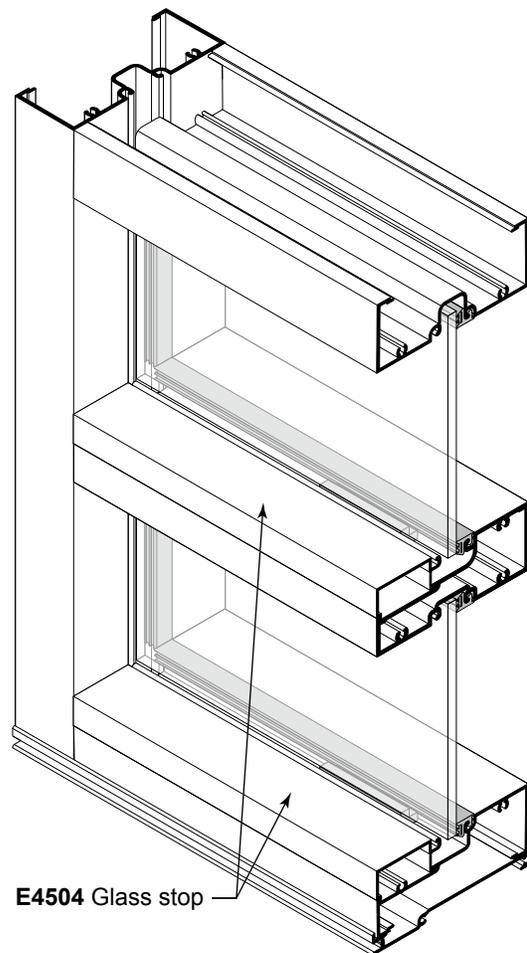

Fig. 37.2
- A. Install the glass stop into the horizontal after the glass has set, as shown in **Fig. 37.2**.